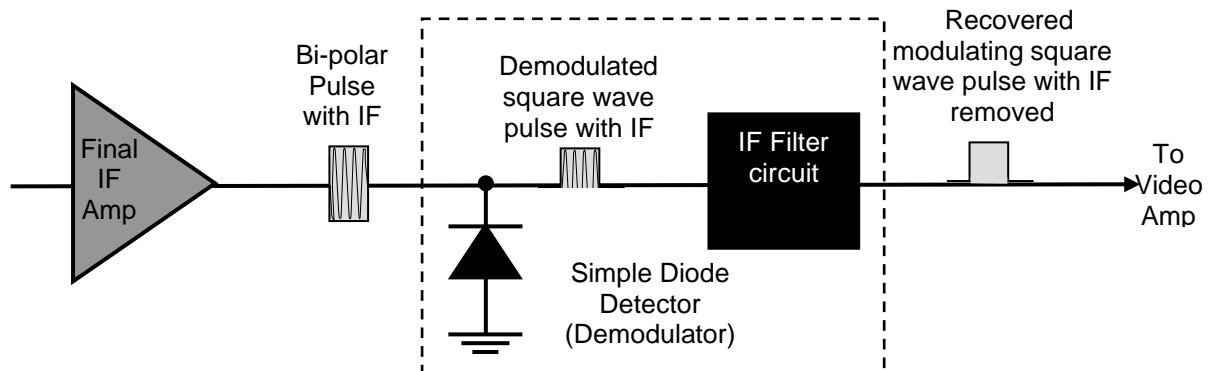

Figure 3 – Simple Diode Detector and IF Filter
26. (Refer to figure 3). The function of the video detector is to demodulate the bi-polar pulse output of the IF amplifier to recover the original modulating square wave pulse shape, though it will be much smaller in amplitude.